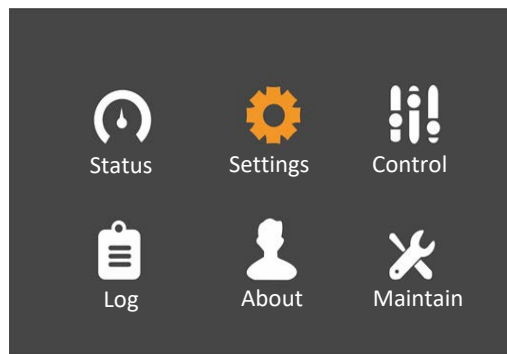

Figure 5-18 Main menu
1. After powering on the UPS, at the main menu screen, press the **▲** or **▼** key to move the cursor to select 'Settings'. See Figure 5-18.